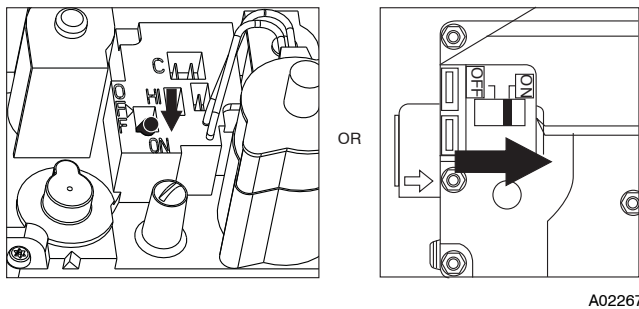

Fig. 9 - Control Switch to ON
6. Replace the outer furnace door. (See Fig. 9.)